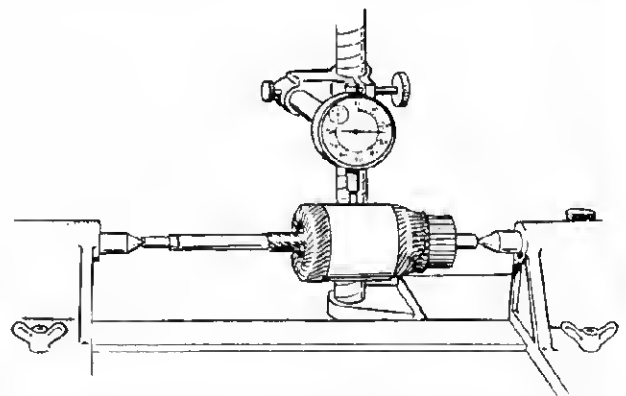

FIGURE 37. CHECKING ARMATURE SHAFT RUNOUT
**Testing Armature Shaft Runout:** The armature shaft as well as the commutator may be checked. A bent armature can often be straightened, but if the shaft is worn a new armature is required (Figure 37).